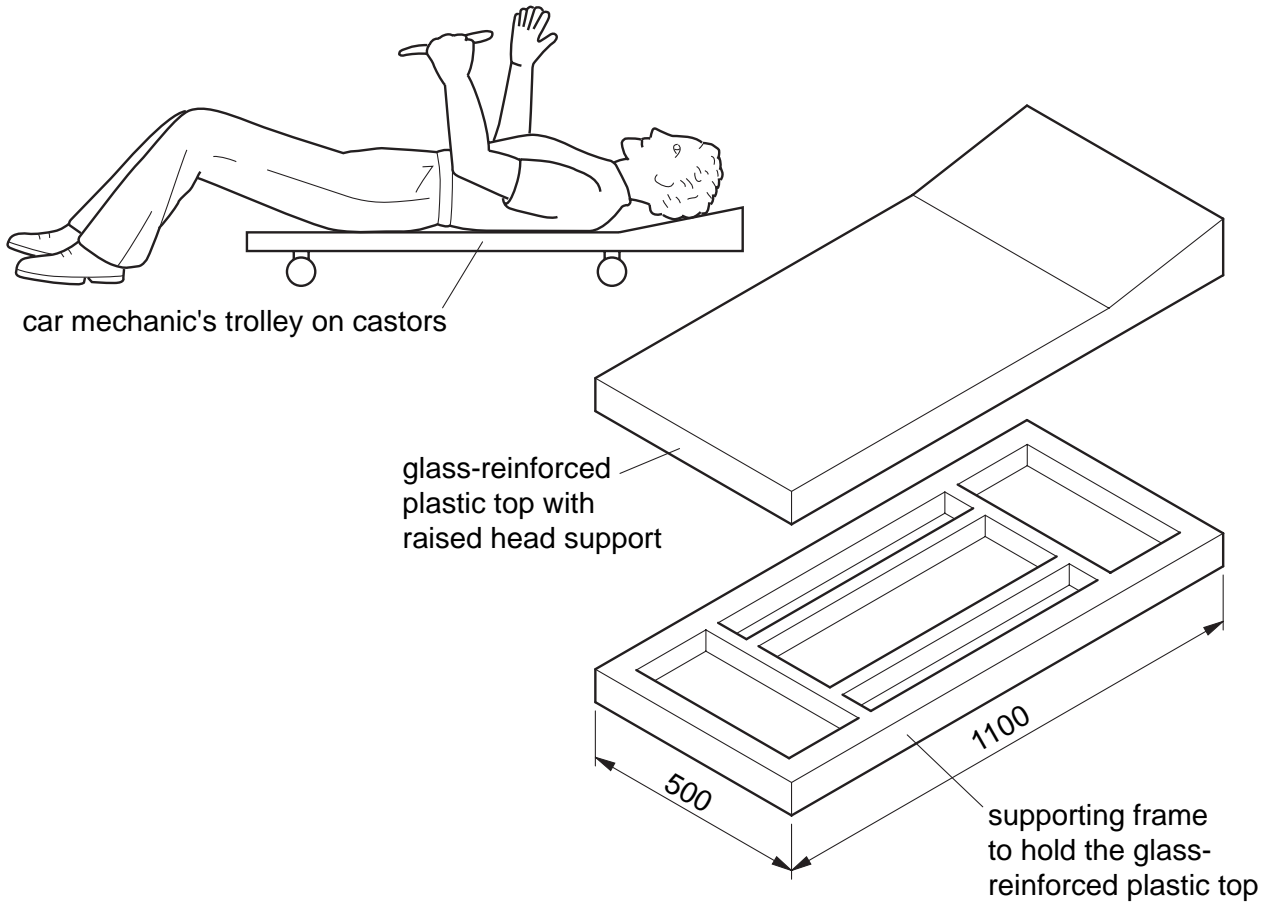

Fig. 7
- 6 Fig. 7 shows a car mechanic's trolley on castors. This is used when a person is working underneath a car. The top of the trolley is made from glass-reinforced plastic and the support frame is made from metal.